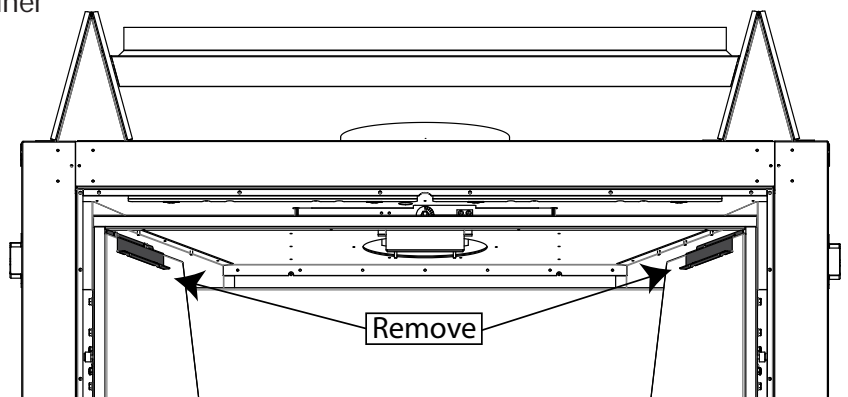

Figure 77: Liner Retainers
**Step 3.** Remove the side liner retainers one at a time using a 5/16 socket (see Figure 77). The screws only have to be loosened, not completely removed, as the retainers are slotted.